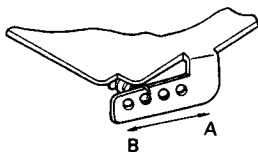

Figure 16.
- 1) If the tape tension is weak (smaller than 50 – 57g-cm), move the hook of the spring toward A (see Figure 16) and check tape tension again.
- 2) If the tape tension is strong (smaller than 50 – 57g-cm), move the hook of the spring toward B (see Figure 16) and check tape tension again.